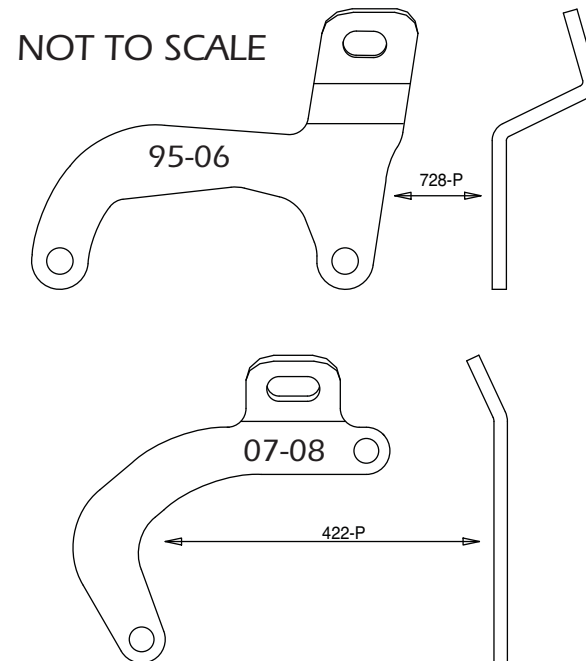
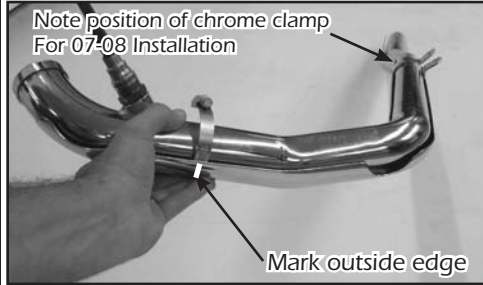

FIGURE 4
FIGURE 5
Late Models 07-08: Slide the chrome clamp (supplied) onto the front head pipe (D450FC) (supplied) so it sits near its installed position (Figure 4 & 5).
- Lay the rear head pipe (D451FC) into the heat shield and install each hose clamp by feeding tail end of clamps into heat shield clips. (Figure 4) Take note of location of clamp screw head direction (Figure 5) (screw head must be accessible when system is installed for adjustment purposes).